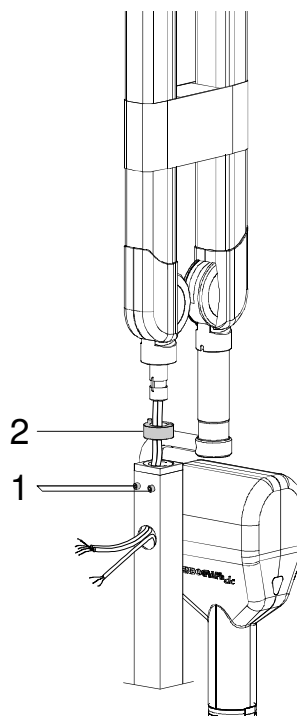

Figure 6-13
1. Loose the two screws (**1** - Figure 6-13) to allow the positioning of the scissors arm.
2. Assemble the scissors arm (there is no extension arm in this configuration), being careful to insert the spacer (**2** - Figure 6-13) into the rotation pin. The spacer (code 6161305600) is included in the mounting hardware packaging.